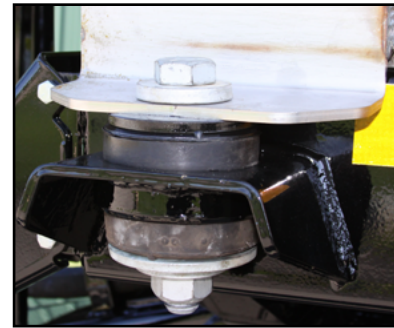

Figure 2 – Rubber Mounts
2. Install rubber mounts at front of trailer (Figure 2). Position spreader with mounts located directly over trailer mounts.